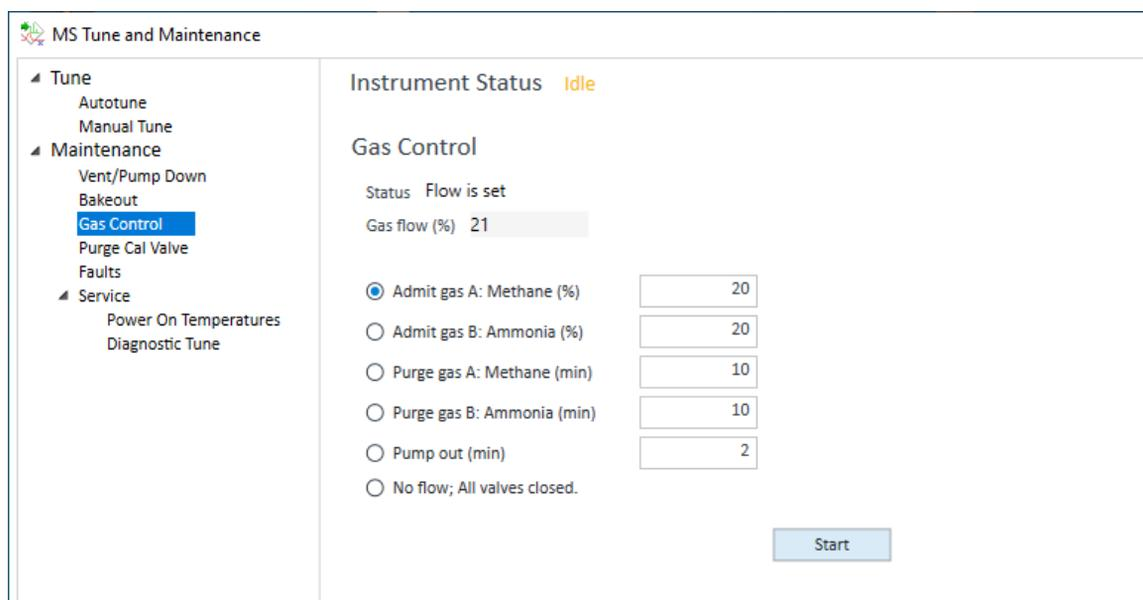

Figure 40. CI Gas Control
- 1 In **Instrument Control** panel, click the **MS Tune** icon to display the **MS Tune and Maintenance** window. Select **Maintenance Gas > Control** to display the Gas Control settings. (See Figure 40.)